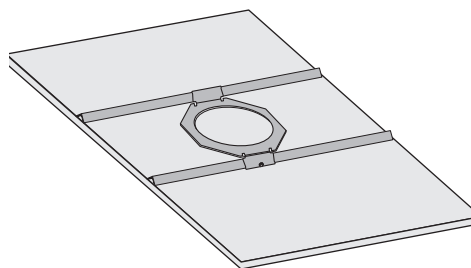

Figure 3
3. Position the MTB-6.5 bracket on the ceiling tile in the desired speaker mounting location. See Figure 3.